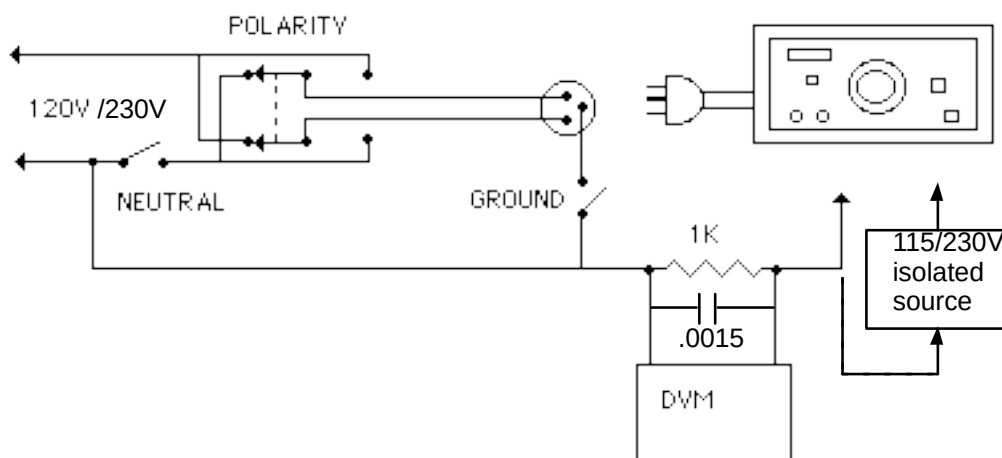

Fig 2.1
- 2.4 Check AC leakage by using a commercial leakage tester or by using a test box constructed so as to permit disconnecting ground, neutral and reversing AC polarity as in figure 2.1. Test leakage under any combination of the switch settings. All current readings should be less than the maximum reading in μamps RMS read according to chart below between any chassis or electrode point and the test box.